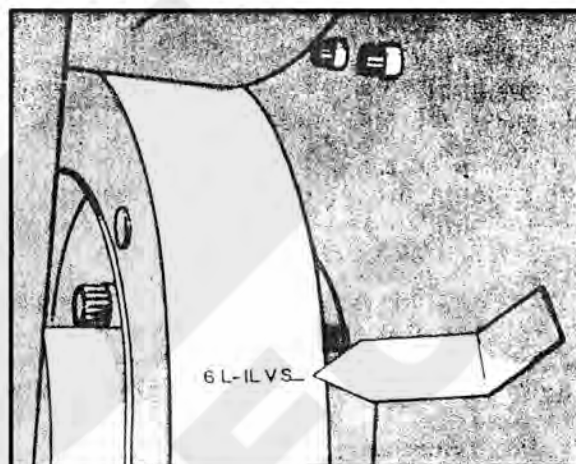

Fig. 2-23 "VS" marks on vibration damper
2. When viewing the "VS" marks at the vibration damper (Fig. 2-23), align the marks on the damper with the pointer on the gear cover.